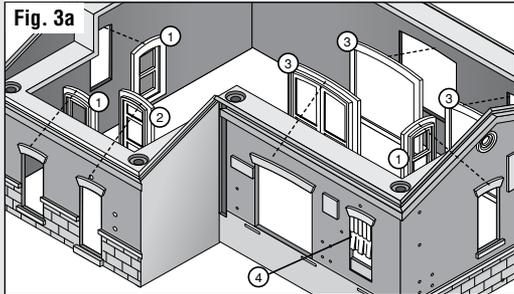

Fig. 3a
- Install and glue Windows and Doors from inside Building (**Fig. 3a**). Do NOT install Window Treatments at this time.